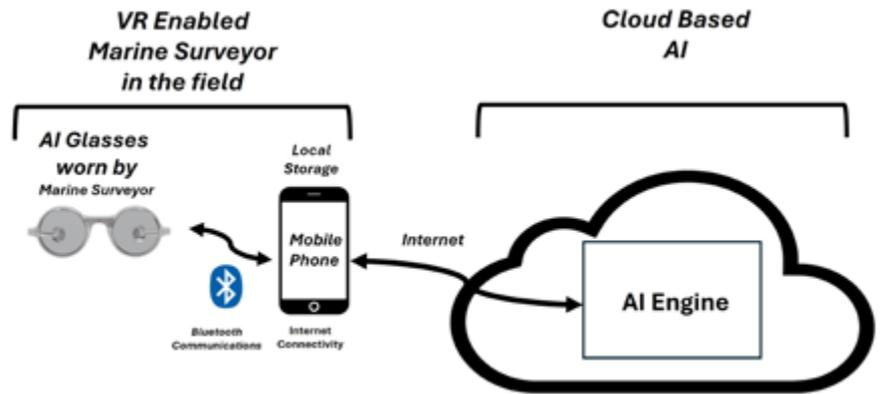

Figure 3: AR usage example
- ❑ Marine surveyor in the field is AR enabled using AI Glasses (Figure 3).
With the appropriate AI-enabled software, the AR setup indicated in Figure 3 would be capable of enabling: